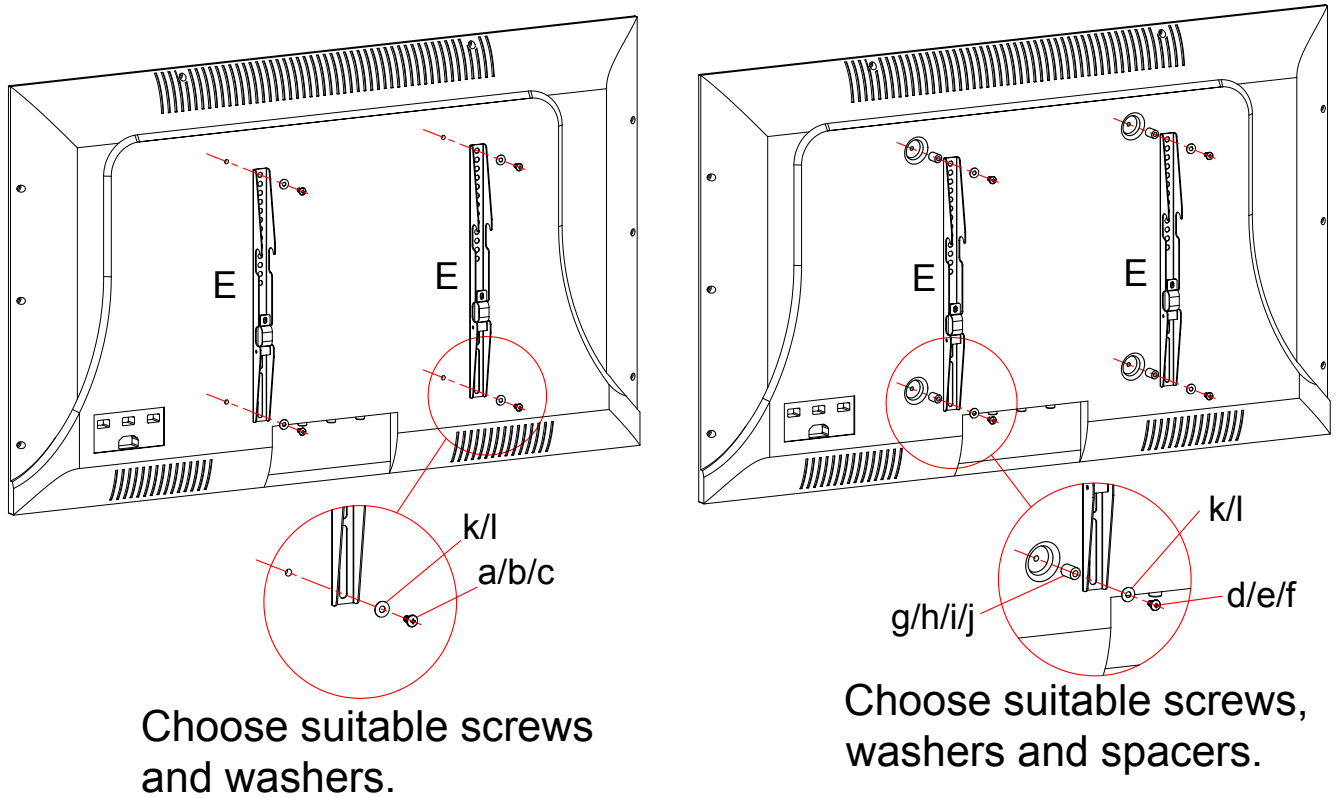

Figure 6
Step 5: Attach bracket (E) to the back of TV, choose corresponding screw, washer, spacers to fix the holes of TV rear. (Figure 6)